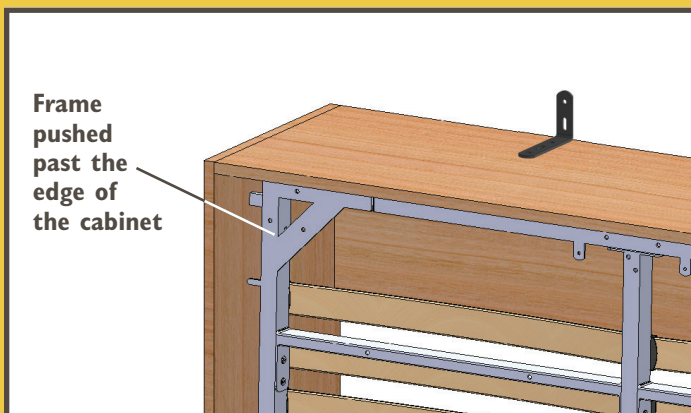
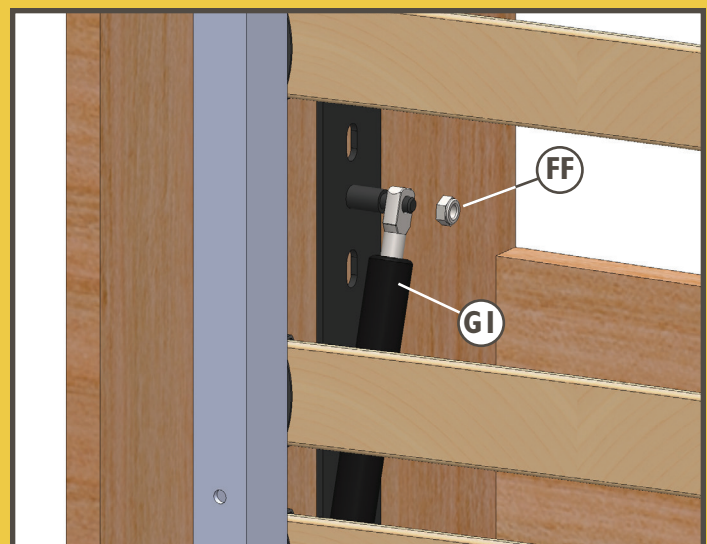

Fig. 12
Fig. 13
4. Carefully tilt the frame upward past the front edge of the cabinet and hold it there. **Fig. 12.** On each side, fit the end of the Piston (G1) onto the threaded stud on the Mounting Plate (I) and secure with an M8 Lock Nut (FF). **Fig. 13.**